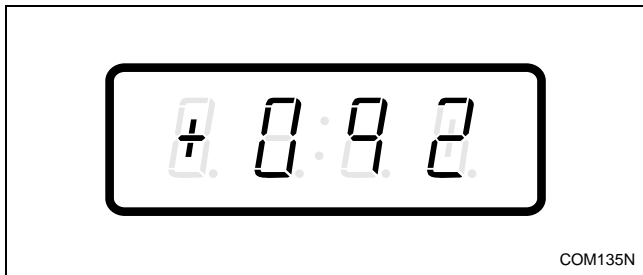

Figure 142
- Press the DELICATES (+) or the COLD (-) keypad to scroll through the programmable options until “+092” appears in the VFD. Refer to *Figure 142*.